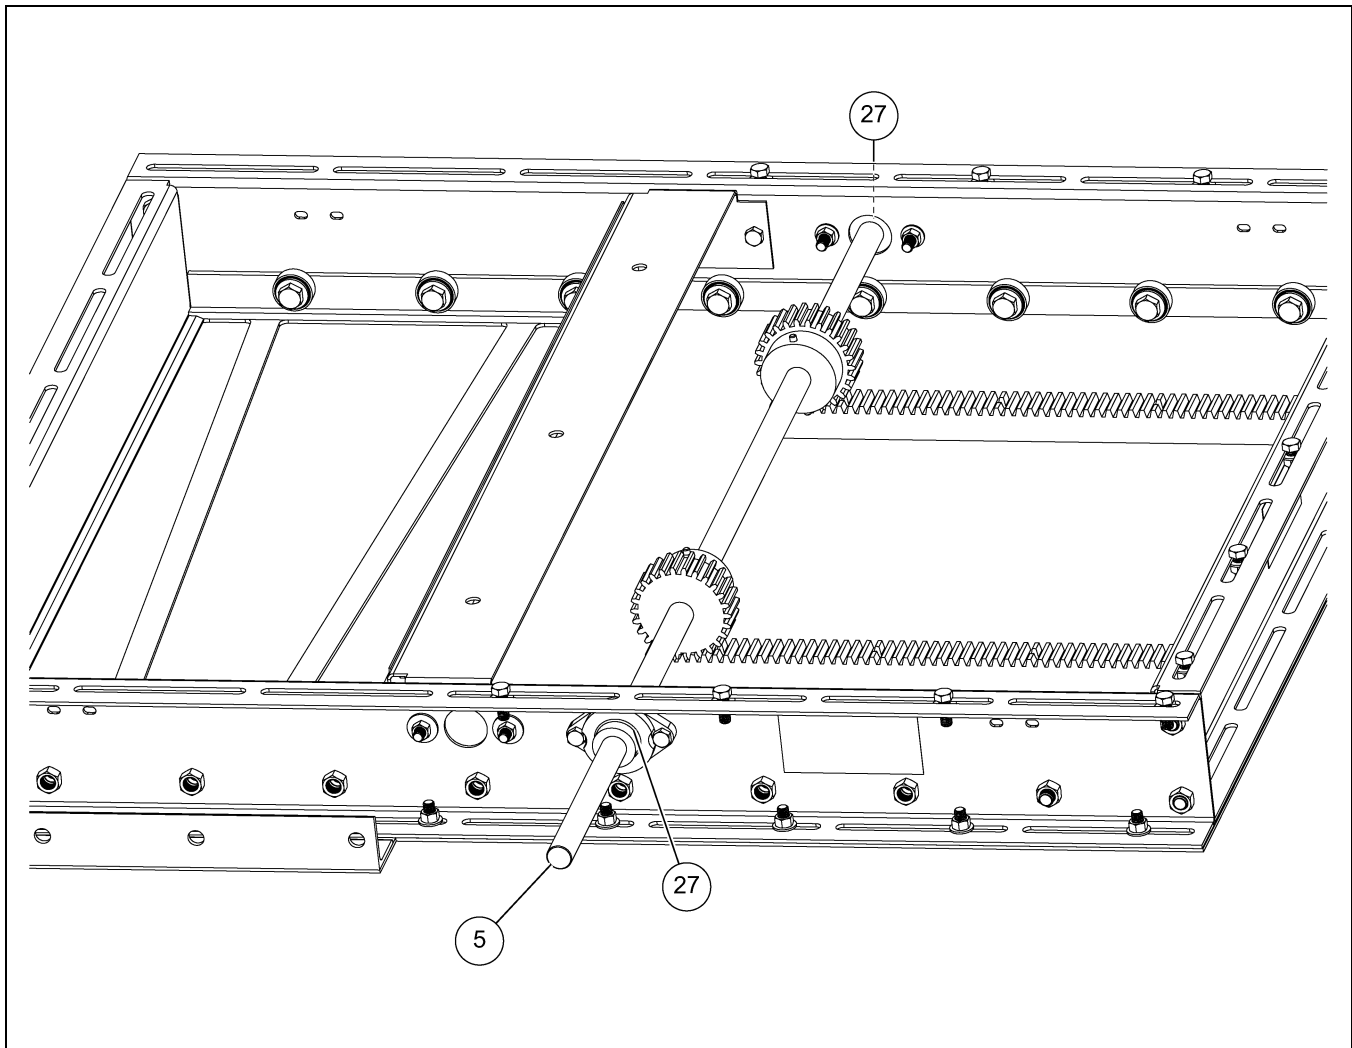

Figure 3P
1. Loosen the set screws (27) for shaft on both bearings. *(See Figure 3P.)*
2. Remove the bearing on the long side of the shaft (5).